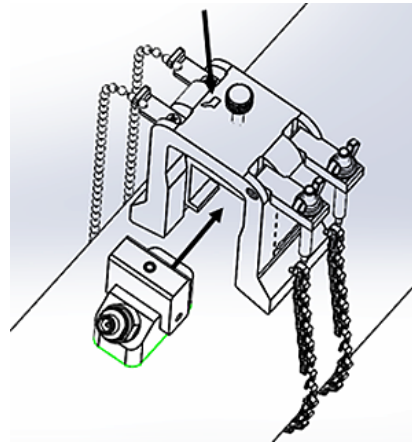

Figure 41: Insert transducer into yoke
- Loosen the yoke screw. Then, apply couplant to the transducer face and insert the transducer into the yoke, as shown in *Figure 41* below.